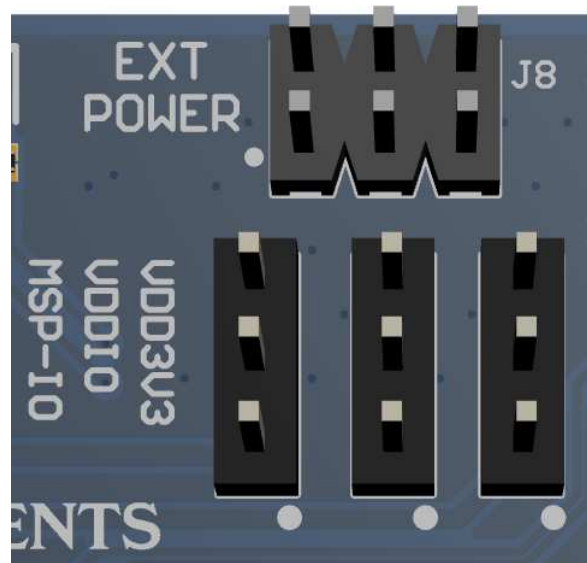

Figure 4. Supply Selection Jumpers - LDO
- On the VDD3V3, VDDIO, and MSP-IO connections ensure that the jumpers are populated on position 1-2 for all three connectors shown in Figure 4.